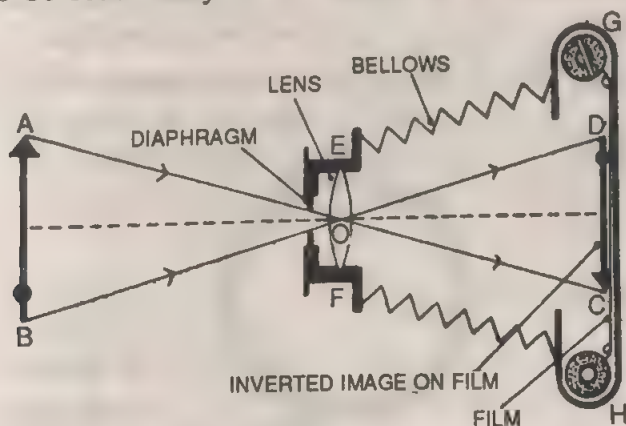

Fig. 6.21 Diagram of a folding camera
2. **The Photographic camera** Convex lenses are used in the camera. This consists chiefly of a convex lens and a sensitive film or plate forming the screen, all being enclosed in a box painted black on the inside to prevent any light affecting the film. Fig. 6.21 shows the working of a folding camera. EGHF is the camera, O being the camera lens and GH being the film or plate. AB is the object whose photograph is being taken. A beam of light from it passes through the lens and forms an inverted image of the object on the sensitive film or plate. You 'take' the photograph by allowing light to pass through the lens for a very short time, depending on how much light is available. This light will affect the film or plate according to how much of it reaches different parts of the film, that is, according to the image of the object formed on it.